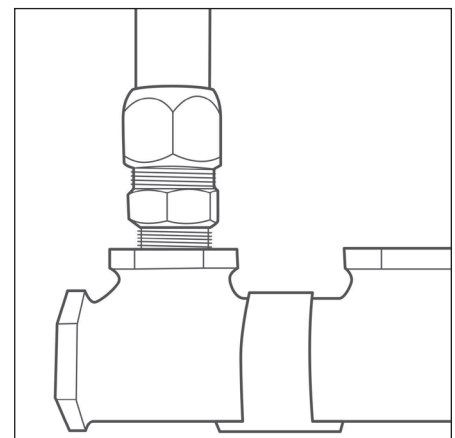

Figure: 4-9
- 4. PIPE TO FITTING CONNECTION:** This step applies to straight and coupling fittings. Loosen nut on the fitting 1 to 1-1/2 turns. Straighten pipe end and insert into the back of the fitting until it snaps into place. Figure: 4-9 While holding the tubing firmly into the fitting, tighten the nut by hand to capture the first corrugation. If inserted correctly, a gradual resistance to tightening by hand will